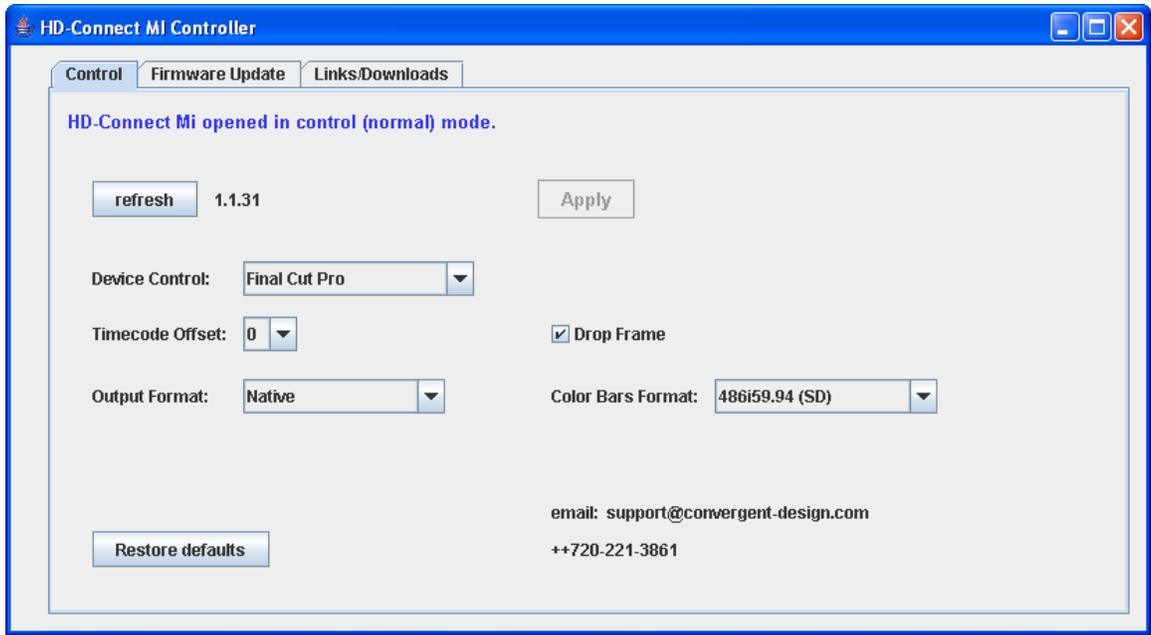

Figure 4 HD-Connect MI™ control application screen.
- 2) Open and run the control application. Click on the “Open” or “Refresh” button under the “Control” tab. The application will then display the current firmware version. Figure 4 shows a screenshot of the application.